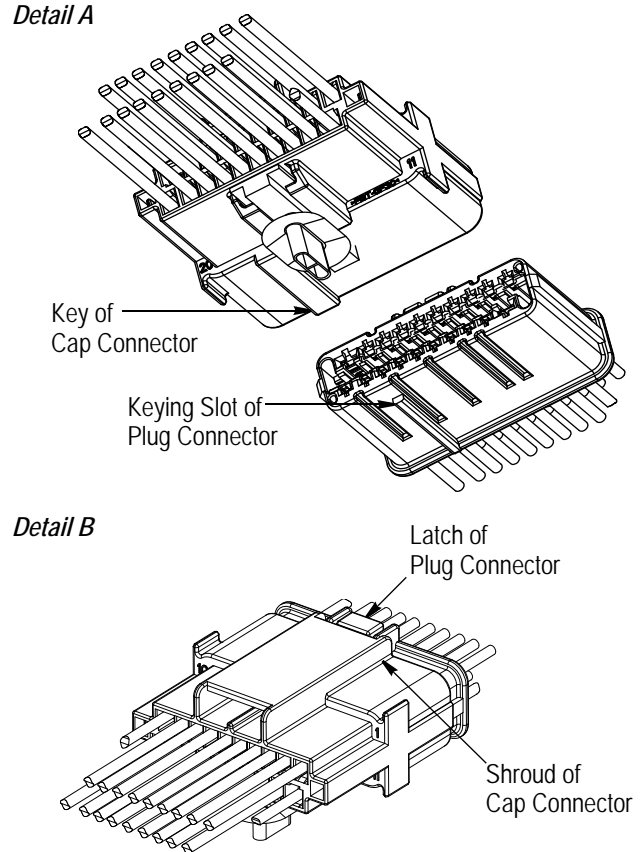

Figure 6
2. Push the connectors together so that the alignment ribs enter the alignment slots and until the latch of the plug connector engages the shroud of the cap connector (there will be an audible “click”). See Figure 6, Detail B.
Depress the latch of the plug connector (shown in Figure 6), and simultaneously pull the connectors apart.